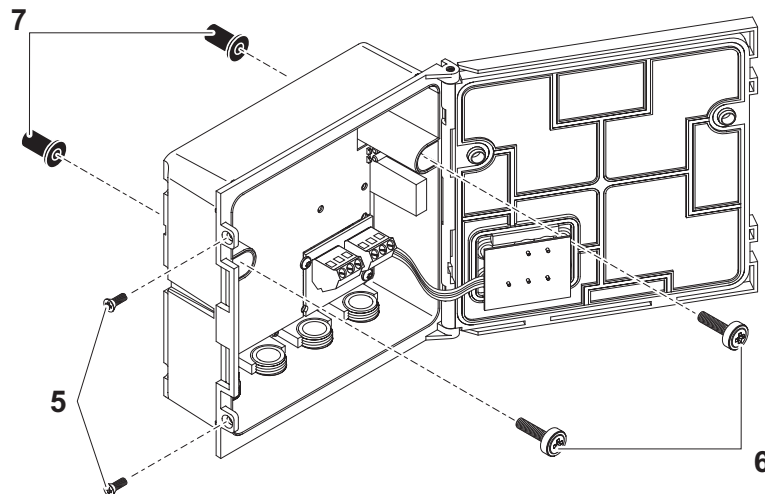

Fig. 3-9 Mounting the sun shield: Premounting the ISO blind nuts
| 2 | Remove the two screws (pos. 5 in Fig. 3-9) and swing open the module lid. |
| 3 | Insert the cheese-head screws (pos. 6 in Fig. 3-9) with the plastic washers in the drilled mounting holes and loosely screw in the ISO blind nuts (pos. 7). |
| 4 | Position the module on the sun shield and fix it into place with the two screws (pos. 6 in Fig. 3-9). |
| 5 | Close the module lid and fix it in place with the two countersunk screws (pos. 5 in Fig. 3-9). |